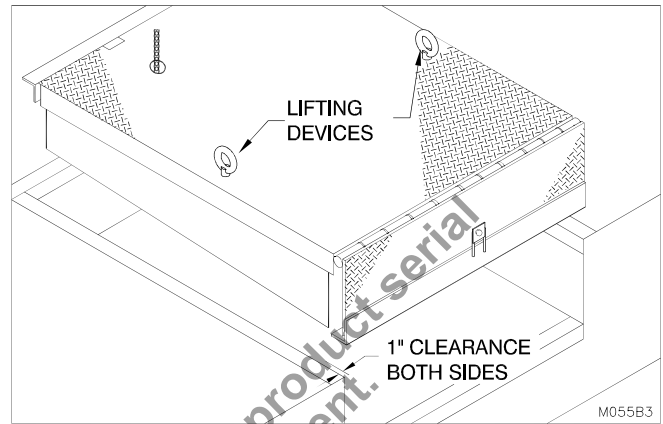
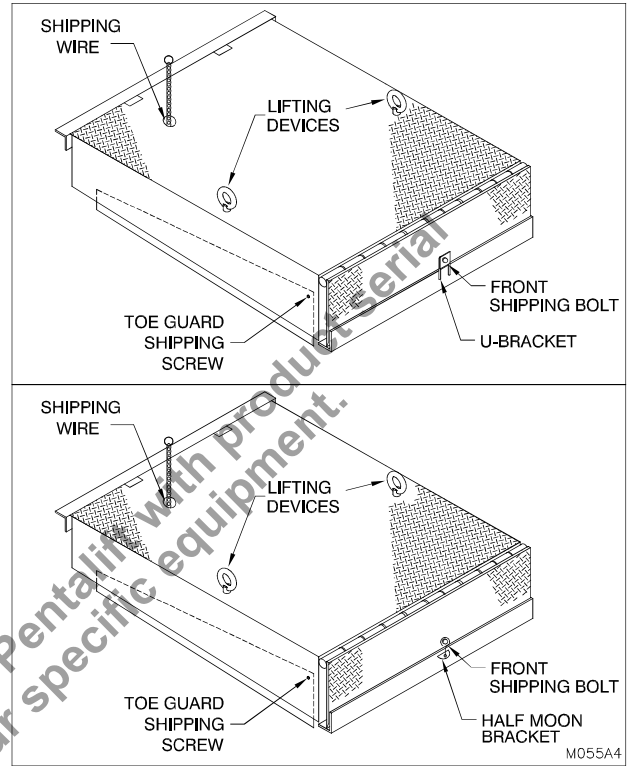

Figure 3: Hoist Using Lifting Devices
Figure 4: Shipping Wire, Bolts and Lifting Devices
5. ___ Hoist leveler into pit. (See “Figure 3: Hoist Using Lifting Devices” on page 6) Position the leveler into the pit opening.
7. ___ **⚠ DANGER** INADEQUATE LIFTING EQUIPMENT OR PRACTICES CAN CAUSE A LIFTED LOAD TO FALL UNEXPECTEDLY. MAKE SURE THAT EYE BOLTS AND LIFTING CHAIN OR OTHER LIFTING DEVICES ARE IN GOOD CONDITION AND HAVE A RATED CAPACITY OF AT LEAST 3500 LBS FOR THE LIFTING ANGLE USED. CONFIRM THE SHIPPING WEIGHT OF THE DOCK LEVELER. IF IT IS GREATER THAN 3500 LBS THEN INCREASE THE RATED CAPACITY OF THE LIFTING DEVICE(S) TO ACCOMMODATE THE SHIPPING WEIGHT OF THE DOCK LEVELER WHEN IT IS BEING LIFTED OR PLACED INTO THE PIT. STAND CLEAR OF THE DOCK LEVELER WHEN IT IS BEING PLACED INTO THE PIT. FAILURE TO FOLLOW THIS WARNING CAN ALLOW THE DOCK LEVELER TO HIT SOMEONE, CAUSING SERIOUS INJURY OR DEATH.
9. ___ Remove the top shipping bolts and lifting devices. Some units come equipped with a front U-Bracket while others come equipped with a front Half Moon Bracket. If your unit comes with the front U-Bracket then **remove** the front shipping bolt then **remove** the U-bracket and clean up the remaining weld to ensure there is no interference with the lip operation. If your unit comes with the Half Moon Bracket, first **remove** the front shipping bolt and finally **remove** the Half Moon Bracket and clean up the remaining weld to ensure there is no interference with the lip operation. (See “Figure 4: Shipping Wire, Bolts and Lifting Devices” on page 7)
12. ___ For units with full range toe guards, support the lower half of the toe guard and remove the self tapping screw which holds it in the shipping position. (See "Figure 4: Shipping Wire, Bolts and Lifting Devices" on page 7) Carefully lower the toe guard and avoid pinch points.